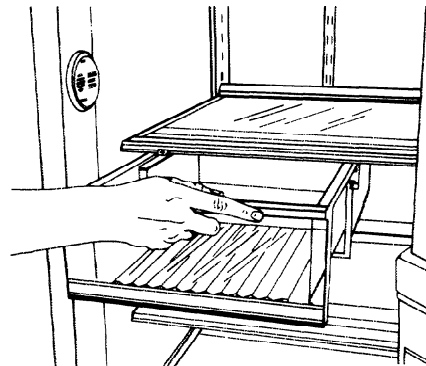

FIGURE 48
3. Pull drawer out the rest of the way. See Figure 48.